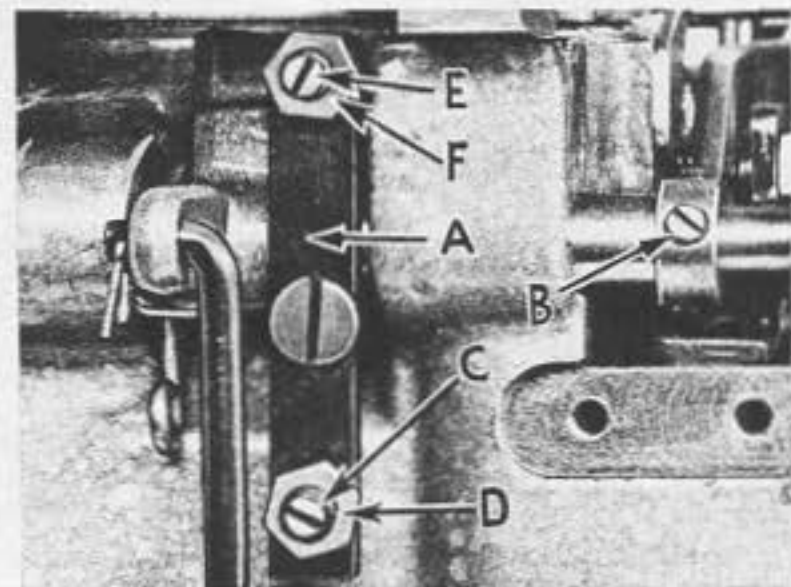

Fig. 14
Foot lifter lever arm (A, Fig. 14) and collar (B) secure the shaft. Be sure presser arm does not bind and rise when presser foot release bushing is unlocked. To center presser foot and stitch tongue with respect to throat plate needle hole, loosen presser foot hinge screw.